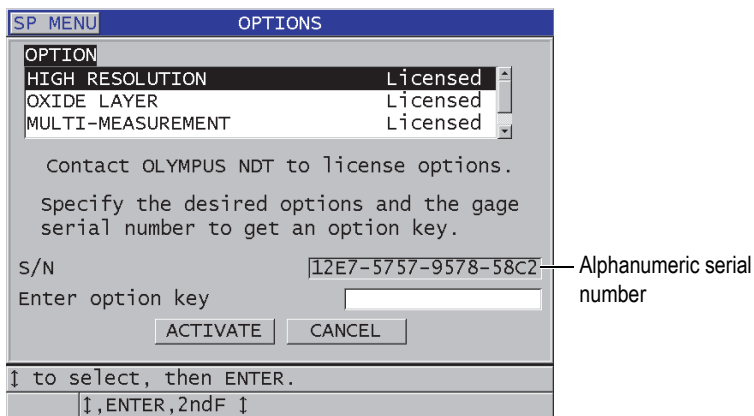

Figure 7-1 The OPTIONS screen to activate software options
3. In the **OPTIONS** screen (see Figure 7-1 on page 106), note the 16-digit alphanumeric serial number appearing in the **S/N** field. The **OPTION** list indicates the actual status of the software options where **Licensed** means that the option is activated.
5. In the **OPTIONS** screen (see Figure 7-1 on page 106):